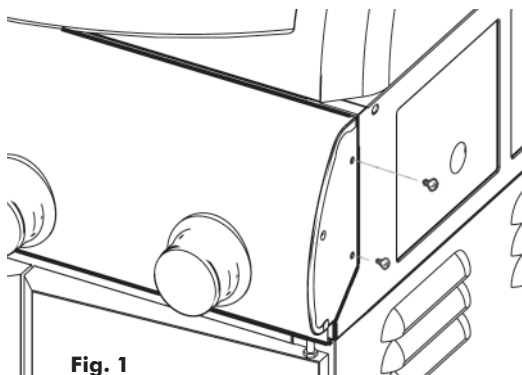
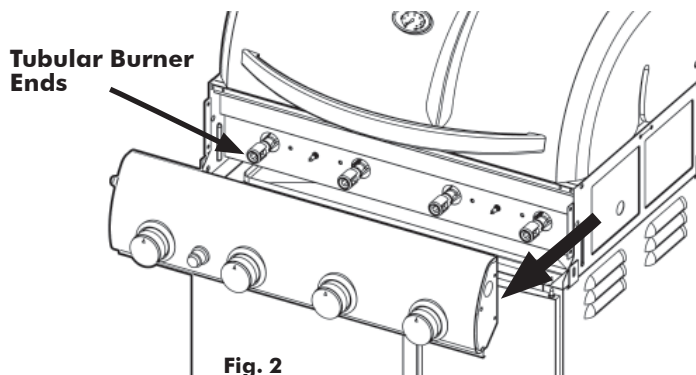

Fig. 1
Fig. 2
4. Figures 1, 2, 4 and 4a show the grill at assembly step 7, prior to attaching the Side Tables, and illustrate the initial steps in the "FIRST TIME USE LEAK TEST".
Detach the Control Panel from the Grill Body/Firebox by removing the two 5/32" Bolts from each end. (Fig. 1) Gently pull the Control Panel away from the Body until Valves disengage from the Tubular burner ends. (Fig. 2) Support the Control Panel to keep tension off of the igniter wire leads or detach the wire leads from the Starter Button module.
10. Re-attach the wire leads to the Igniter button. Replace Control Panel around flanges at Bowl ends and align bolt holes on each side. Replace and retighten all bolts. (Fig. 1)